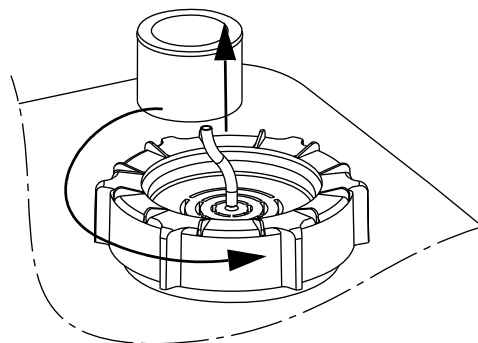

Fig. 33 Removing the pressure tube
2. Loosen the screw cap by turning it counterclockwise. See fig. 33.